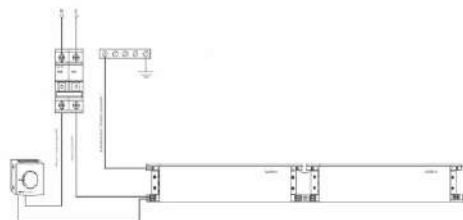

Fig. 4. Baseboard connection scheme
7.4.9 The thermoregulator must be connected by a qualified electrician, according to the scheme shown in **Fig. 4**. After connecting the thermoregulator, put a cover on it and calibrate the temperature by thermal relay activation.